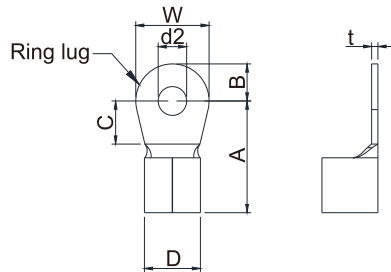
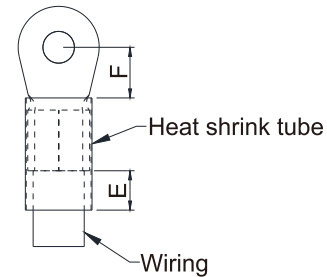

Figure 3-11
Figure 3-12
- Use the specified ring lug for main circuit terminal wiring. See Figure 3-11 and Figure 3-12 for ring lug specifications. For other types of wiring, use the wires that comply with the local regulations.
- After crimping the wire to the ring lug (must be UL approved), UL and CSA approved recognized component (YDPU2/8), install heat shrink tube rated at a minimum of 600 V_{AC} insulation over the live part. Refer to Figure 3-12.